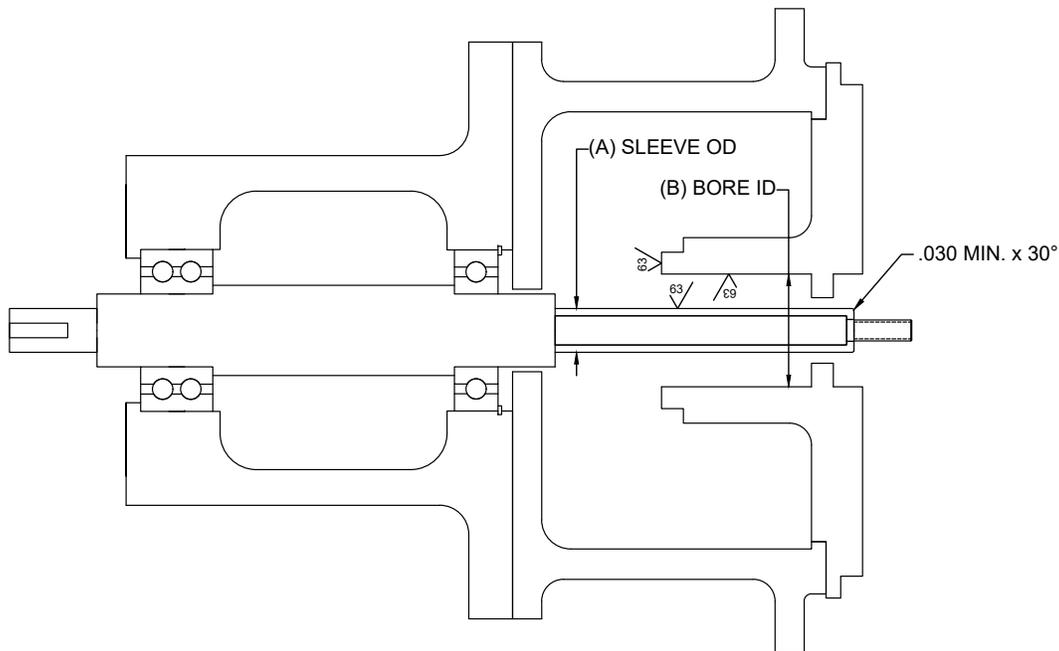

Figure 1: Surface finish and chamfer locations. Fully assembled pump without seal.
5. Sealing surfaces and the shaft or shaft sleeve must have at least a 63 Ra- μ in surface finish as seen in Figure 1.